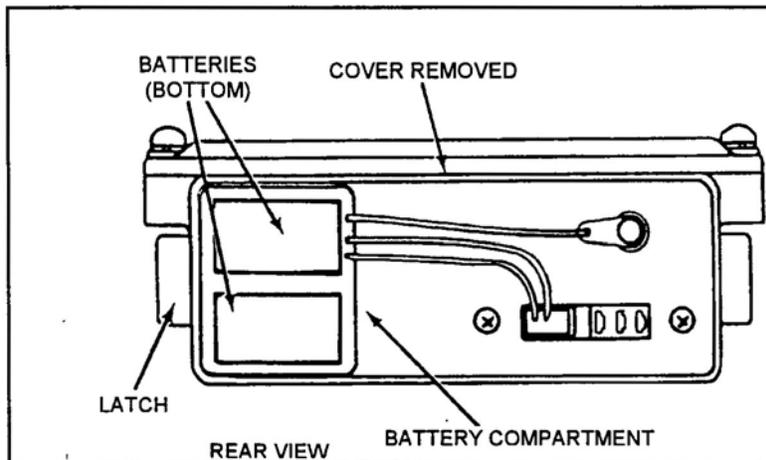

Figure 12. Receiver battery compartment.
a. Install the batteries (Figure 12).
- (1) Set DSPL-TONE-OFF switch to OFF.
- (2) Release the latches on the battery compartment at the base of the receiver.
- (3) Remove the battery compartment cover.
- (4) Snap two batteries into position in the battery compartment with the connectors against the rubber pad.
- (5) Replace the cover and secure the latches.